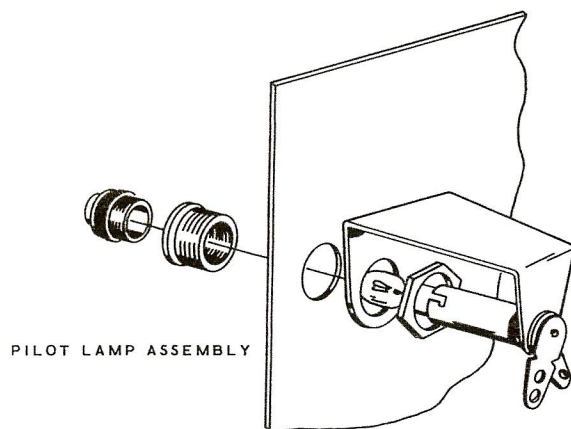

Figure 14
- ( ) In the same manner, prepare a piece of spiral shield 4-1/4" long. Unroll about 1" of wire at one end and connect to terminal strip M3 (S). Place the opposite end through grommet DC leaving the free end about 1-1/2" through DC.
- ( ) Cut a piece of wire to a length of 4-1/4". Strip and tin both ends and place the wire through the shielding at grommet DB. Connect one end to terminal strip AA1 (S) and the opposite end to terminal strip M1 (S).
- ( ) Prepare a wire 4" long as before and place it through spiral shield DB. Connect one end to AA2 (S) and the opposite end to M2 (S). Recheck the dress of the shield to make sure no possibility of short circuits exist.
- ( ) In the same manner, prepare a wire 5-3/4" long and run it through spiral shield DC. Connect one end to terminal strip H3 (S) and the opposite end to M4 (S).
- ( ) Likewise, prepare a wire 6" long and run it through shield DC. Connect one end to H1 (S) and the opposite end to M5 (S).
- ( ) Mount the pilot light assembly at location BM on the front panel, observing Figure 14 and Pictorial 1. Make sure that the lamp socket bracket is oriented as shown, for it is used as a shield between the lamp and range switch. Install the bulb before securing the jewel.